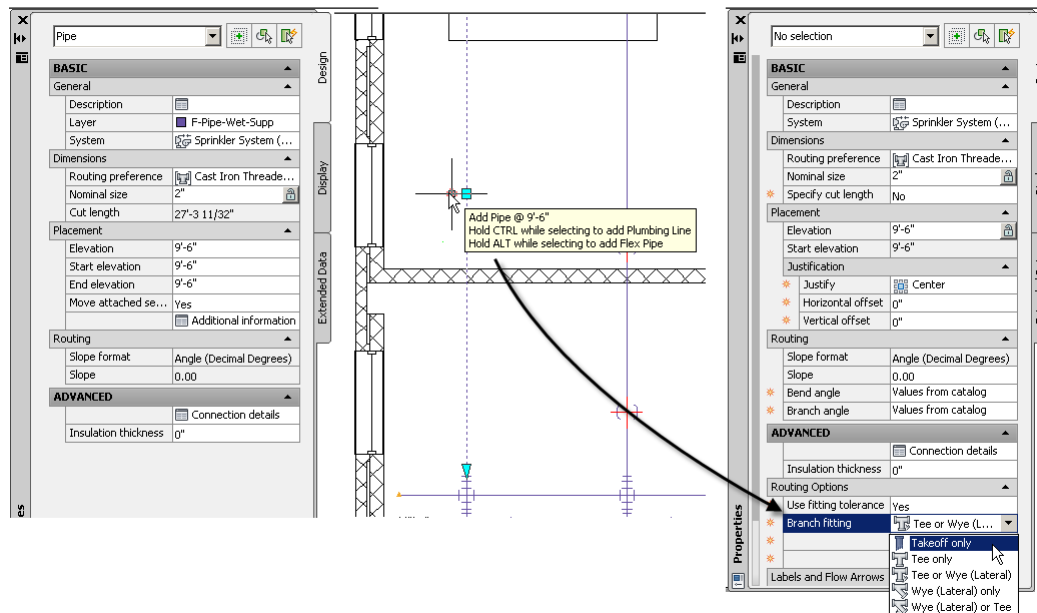

Figure 6.84
74. Select the Branch Pipe at the northwest corner of the building, click the middle plus (+) grip, and then on the Properties palette in the Routing Options grouping (under Advanced) change the Branch fitting to: **Takeoff only** (see Figure 6.84).